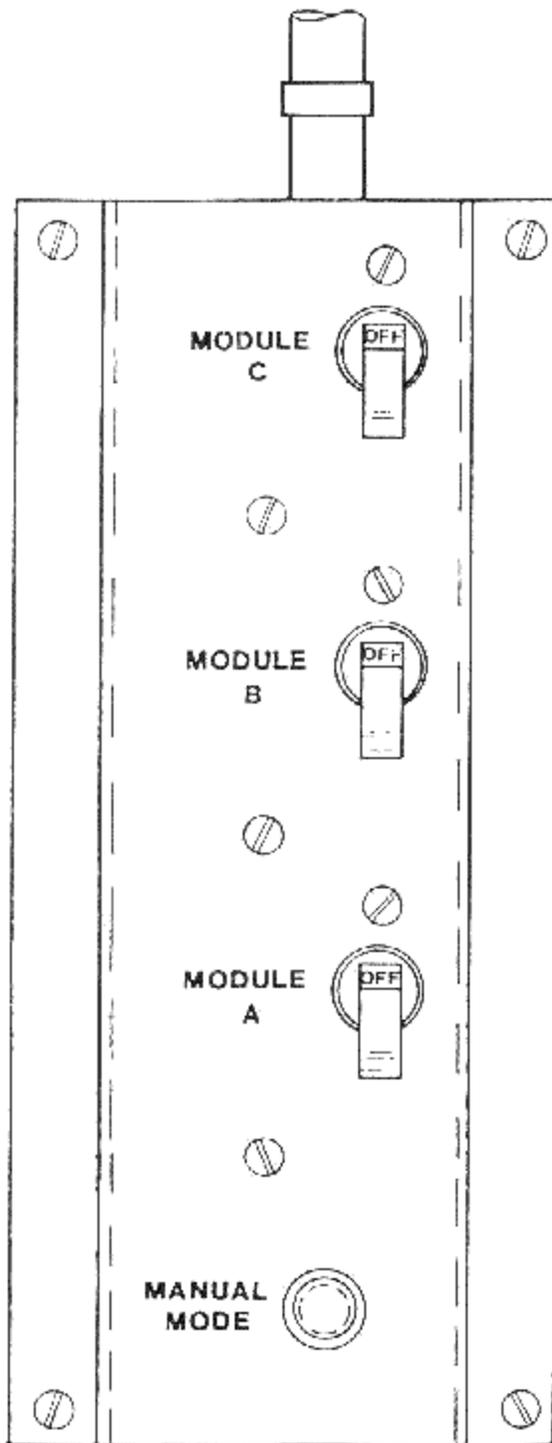

Figure 1. 6-PAK circuit breaker assembly
The circuit breaker assembly is located on the rear wall of the cabinet inside the left access door (See Figure 1). Three (3) toggle type circuit breakers provide protection for the air dryer modules. A push button type circuit breaker provides protection for the manual mode module (For wiring scheme and interconnection information please call us at (973) 442-7500).